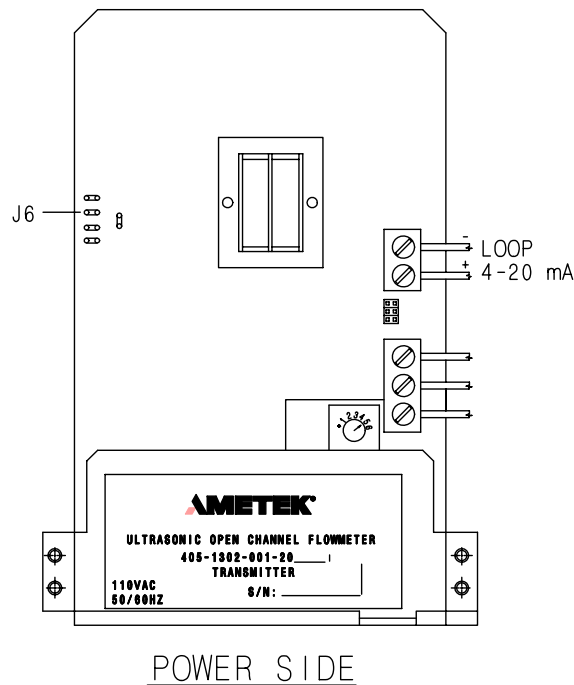

Figure 4-4
3.4 Step Gain Switch The step gain switch can be used to decrease the acoustic signal and avoid noise interference. See *Figure 4-4* for the location of the step gain switch.
- d. Connections are made to the transmitter on jumper J6 as shown in *Figure 4-4*.